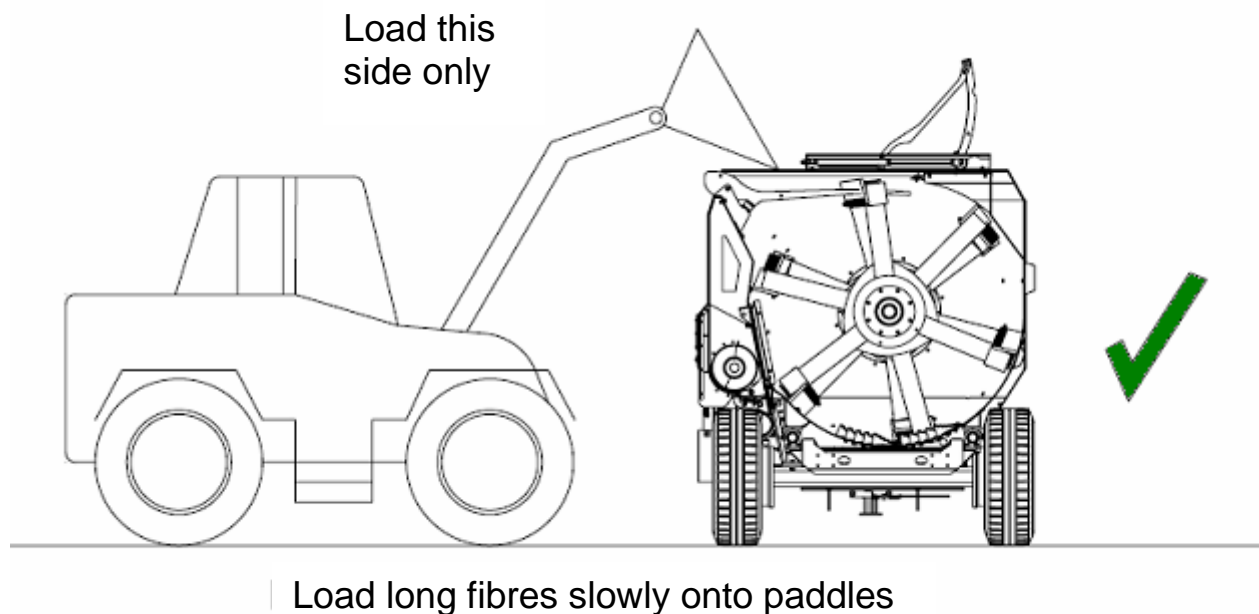

Figure 7: Loading the KEENAN MechFiber Diet feeder
- o) Load only from the side indicated – see Figure 7 (auger chamber side), using suitable equipment.